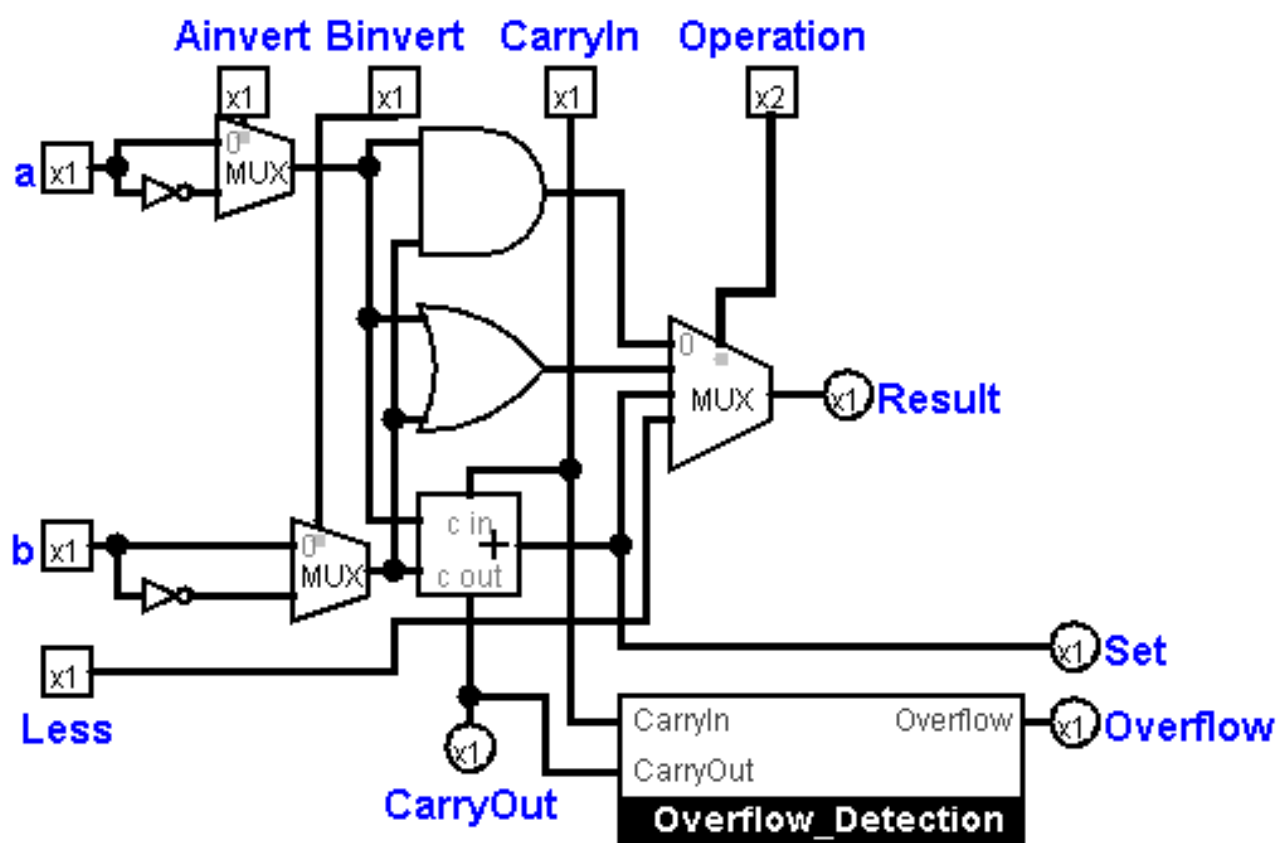

Figure 3: 1-bit ALU handling slt (Set, Overflow circuitry only appear in most significant ALU)
- to implement the `slt` or set-on-less-than instruction as in Figure 3: